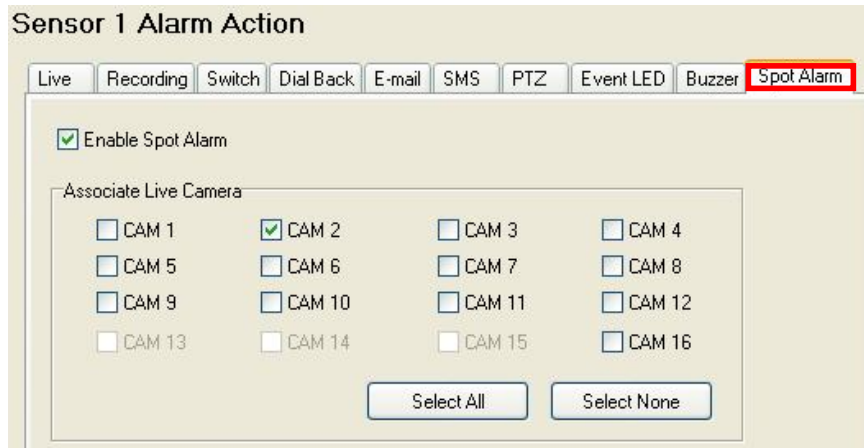

Fig 8.2.8a
Step 1 : In {(Event) Action} panel, click **[Live]** option to set live camera setting as **Fig 8.2.8a**.